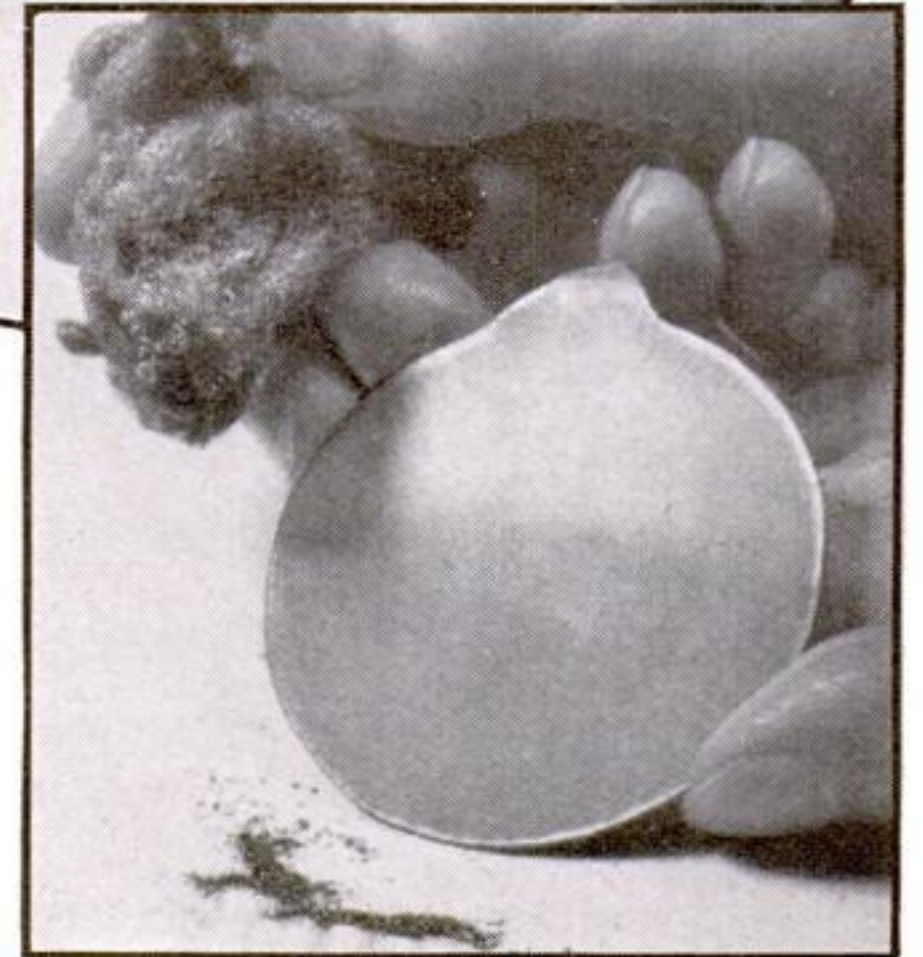
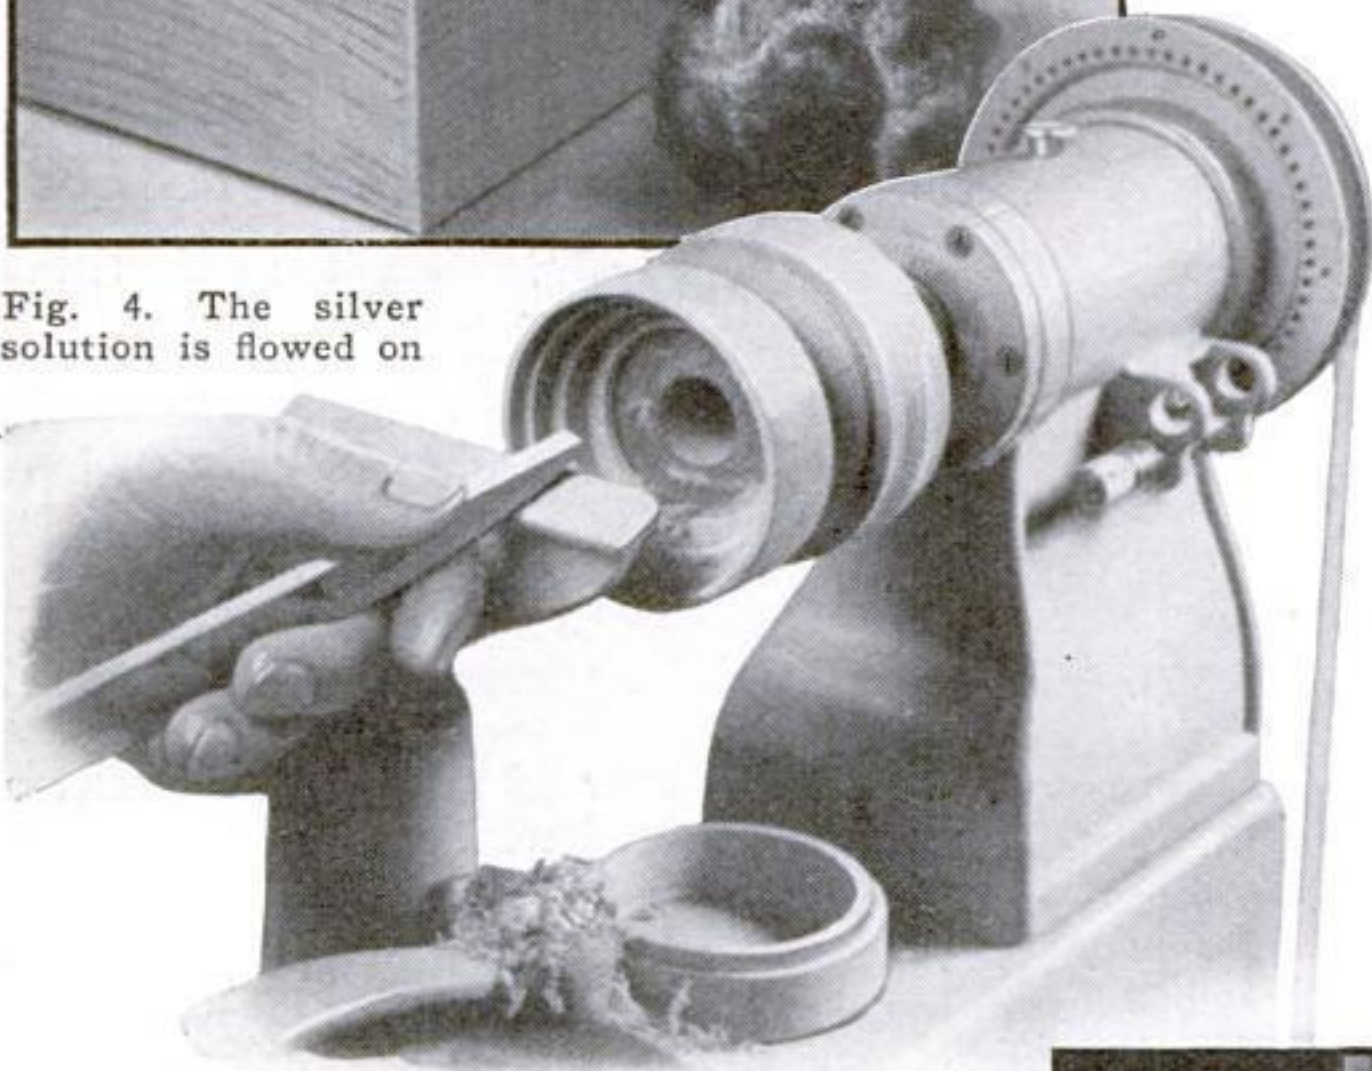

Fig. 2. A spiral of silver-plated wire may be used as a connecting grid on the red oxide
Fig. 5. That half of the wooden box for housing the photometer must be turned in a series of steps. A full-size drawing is given below
**T**HE wire grid is less efficient, but easier to apply. Use 30-gauge wire, forming it into a spiral to cover the oxide (Fig. 2) and holding it in tight contact by means of a cover glass. Allow one end to project from under the glass for making a connection, but see that it does not touch bare copper. A good way to make the grid is to wind the wire on a wood cone, as shown in Fig. 3.
The film of silver should be very thin, and when gently polished the disk should have a silvery color with the red oxide slightly showing through. Contact is made to this surface with a metal ring (silver-plated copper, or lead) of slightly less diameter than the disk. It is advisable to give both the contact ring and the face of the disk a coat of thin lacquer, but do not allow the lacquer to come between the ring and the silvered surface and spoil the contact. The cell is housed in a turned wood box made as shown in Fig. 5.
In using the cell as a photometer, the sensitive meter and the electronic disk are housed in the same container, as shown in the drawing of the group of illustrations marked Fig. 6. The half of the box holding the cell is turned in steps, as in Fig. 5, in order that the disk may be set back from a light opening of smaller diameter. This is to limit the light entering the box so that only the light reflected from the scene to be photographed can affect the cell. One of the illustrations shows how an opening is cut in the other half of the box for the meter scale; hold the box on the saw table with the hands, and with the regular hold-down out of the way. Both the front of the photometer and the meter side are shown in Fig. 6.
ly over it. The rollers are fastened to the frame with strap-iron clamps. When a motor is mounted on rubber, the gas and oil lines must be made of flexible tubing or a rubber hose that is designed to hold fuel. The front end illustrated in Fig. 2 is substantial enough for any type of midget car. The springs are from a model-T Ford. One type of homemade U-bolt joint is detailed in Fig. 5, another in Fig. 8. The latter is taken, like the springs, from a model-T Ford and has the advantage of being already bushed and provided with means for lubrication. The end of the spring, opposite the U-joint, is heated over the fire in a stove or furnace and is then easily bent in a vise. A rubber pad made from an inner tube is placed at *A*, Fig. 2, to relieve the strain on the bent joint *C*. In Fig. 8, however, is shown a more workmanlike way to cut and bend the front ends of the frame to match the angle of the springs.
Figure 3 is a sturdy rear end assembly. It is constructed the same as the front end in Fig. 2, except that the U-bolts are longer to give ample space for springing between the bearings and the frame. The bearings are from the rear end of an old automobile. They are clamped as shown through the double springs on each side. The stationary part of the bearing may be spot welded to the clamps *A* and *B*, and the rotary part welded to the axle *C*. If the clamps
For making a typical U-bolt joint as in Fig. 5, the springs and U-bolt are taken from an old car, preferably a model-T Ford. The clamp *A* is made from a piece of iron and holds the U-bolt in position on the bottom of the frame. The U-bolt is held in the spring and clamp by means of the nuts that come with it. Be sure the clamp holds the U-bolt parallel with the hole in the spring.